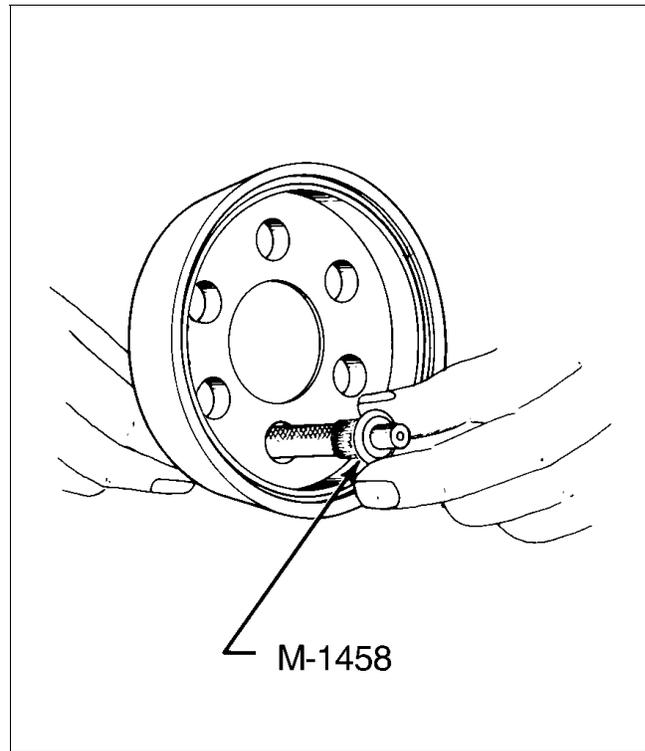

Figure 74-25. Securing Wire in Harness Cap
12. Install an M- 1458 male tapered drive ferrule over insulation and under shielding as in step 9, then drive ferrule into M-1568 harness cap using M-1744 drive tool, similar to step 10. (Refer to Figure 74-25.) Or, press into place using T-109 pressing tool.